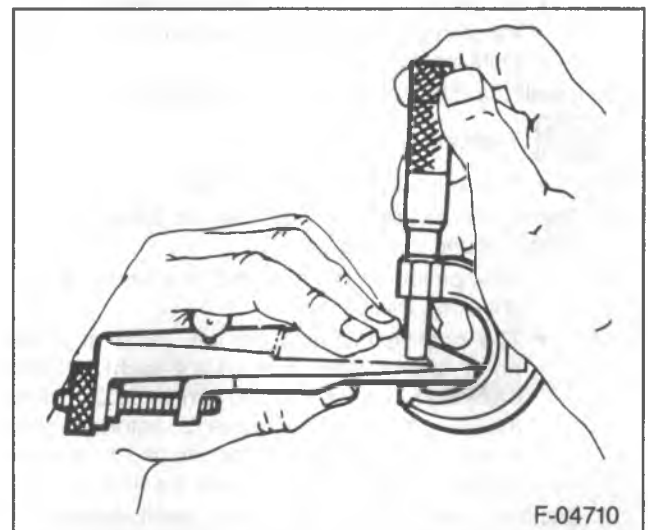

Figure 22—Measuring the Gage Plate Thickness
- Install a service spacer (9) and a service shim (9) between the right bearing cup and the axle housing.
- Measure J 22779 in three places using a micrometer. Average the readings (figure 22).